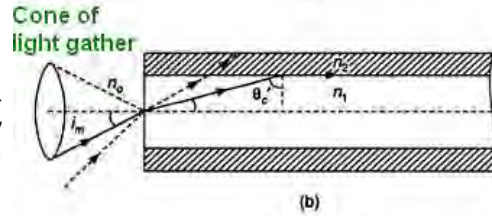

Figure 3.
Therefore, for light to be propagated within the core of optical fiber as guided wave, the angle of incidence at core-cladding interface should be greater than θ'_c . As i increases, θ increases and so θ' decreases. Therefore, there is maximum value of angle of incidence beyond which, it does not propagate rather it is refracted in to cladding medium (fig: 3(b)). This maximum value of i say i_m is called maximum angle of acceptance and $n_0 \sin i_m$ is termed as the numerical aperture (NA).